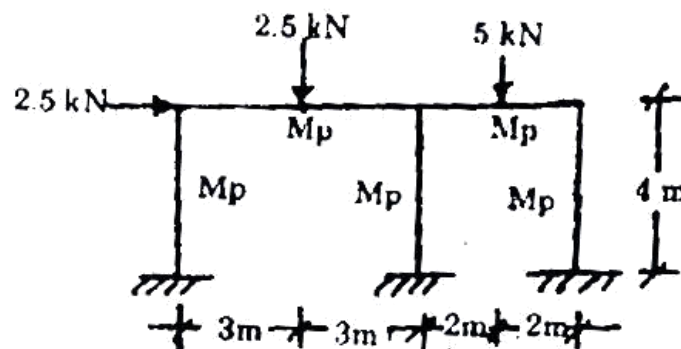

Figure 5
10. Determine the plastic moment for the two bay portal frame to carry working load as shown in Figure 5 Take load factor as 1.5 [12M]